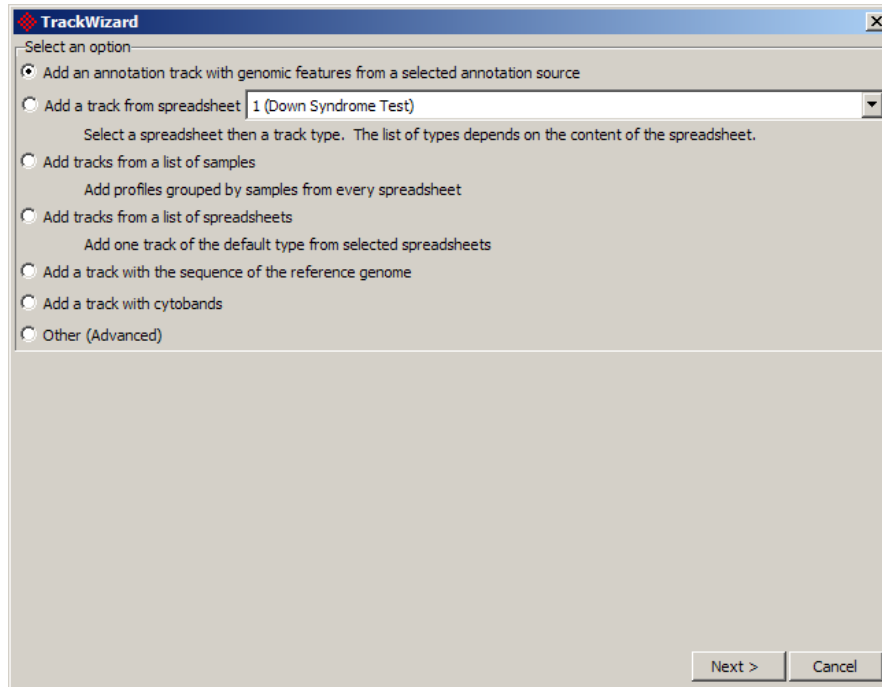

Figure 6. 196: Adding a new track with the TrackWizard
1) *Add an annotation track with genomic features from a selected annotation source* for a list of available annotations. Choose an available annotation and select *Create*, or select *Manage available annotations* to add a new annotation. Partek will attempt to automatically download the annotation file chosen if it is not already available on the local system, as indicated by the *Download Required* message highlighted in red (Figure 6. 197)